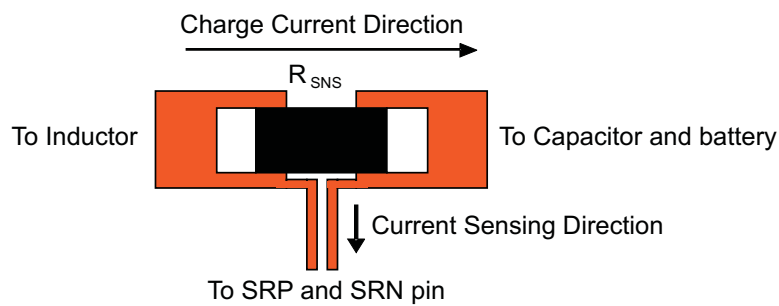

Figure 38. Sensing Resistor PCB Layout
- The charging current sensing resistor should be placed right next to the inductor output. Route the sense leads connected across the sensing resistor back to the IC in same layer, close to each other (minimize loop area) and do not route the sense leads through a high-current path (see Figure 38 for Kelvin connection for best current accuracy). Place decoupling capacitor on these traces next to the IC